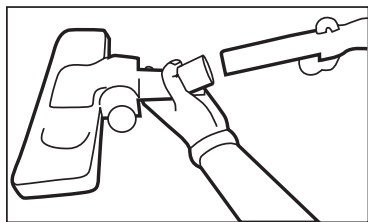
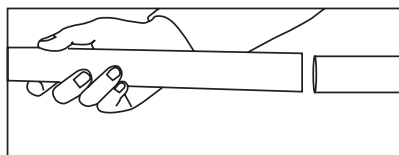
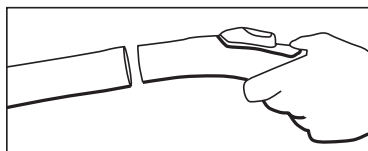

Fig. 1
Fig. 2
Fig. 3
1. Assemble the floor head and the extension tube with the clip (fig. 1); fit the second extension tube (fig. 2) and the hose (fig. 3). All parts push together.